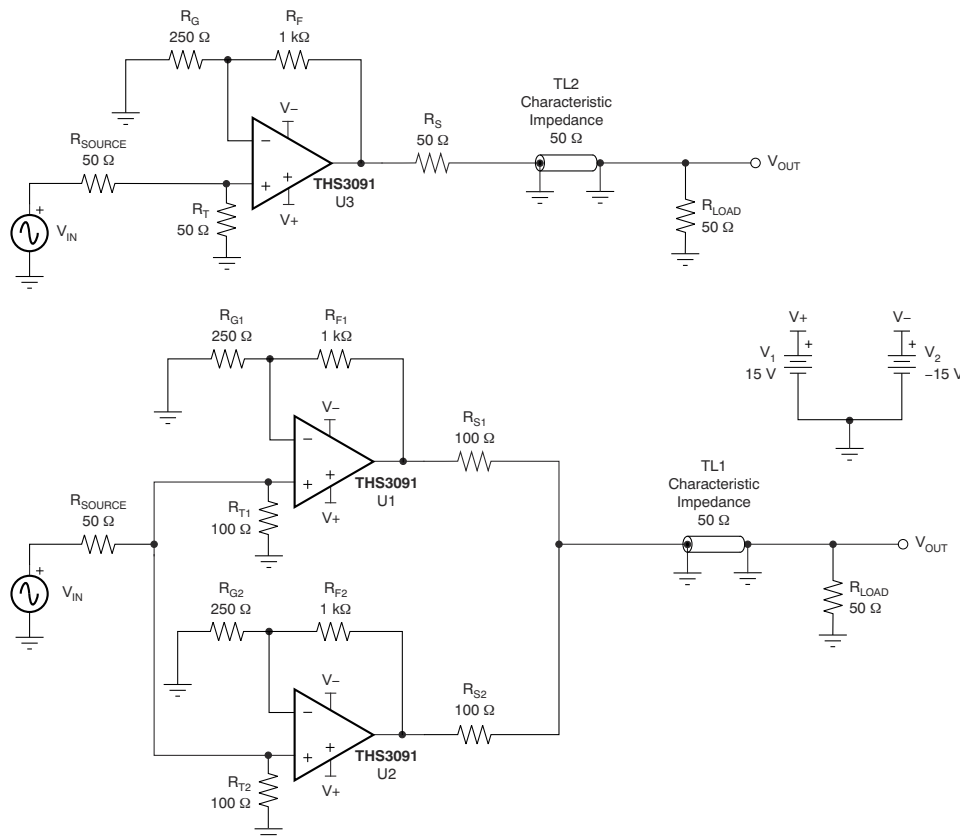

図 9-1. Reference THS3091 and THS3091 Load Sharing Test Configurations
The fundamental concept of load sharing is to drive a load using two or more of the same operational amplifiers. Each amplifier is driven by the same source. Figure 9-1 illustrates the schematic for this design. This concept effectively reduces the current load of each amplifier by $1/N$, where N is the number of amplifiers. For further details on the design and performance of this circuit, see the Reference Design for Implementation of the Load Sharing Concept for Large-Signal Applications.
As shown in Figure 9-1 for example, in a two-amplifier load sharing configuration with matching resistance driving a resistive load (RL), each series resistance is 2×RL and each amplifier drives 2×RL. A convenient indicator of whether an op amp will function well in a load sharing configuration is the characteristic performance graph of harmonic distortion versus load resistance. Figure 7-9 and Figure 7-10 show more information. Such graphs can be found in most of TI's high-speed amplifier data sheets. These graphs can be used to obtain a general sense of whether or not an amplifier will show improved distortion performance in load sharing configurations.
Figure 9-1 shows two test circuits: one for a single THS3091 amplifier driving a double-terminated (50-Ω cable), and one with two THS3091 amplifiers in a load sharing configuration. In the load sharing configuration, the two 100-Ω series output resistors act in parallel to provide 50-Ω back-matching to the 50-Ω cable.
Figure 9-4 and Figure 9-5 show the 64-MHz sine wave outputs of the two configurations from Figure 9-1. While the single THS3091 output is clearly distorted in Figure 9-4, the output of the load sharing configuration in Figure 9-5 shows only minor deviations from the ideal sine wave.